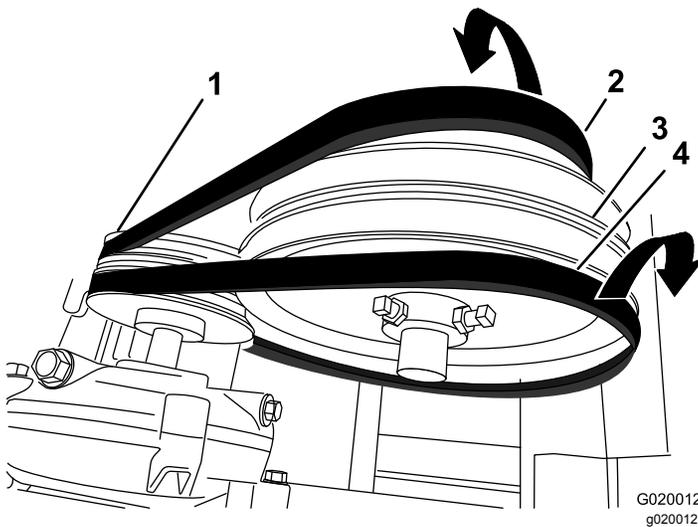

Figure 74
4. Slip the forward belt forward and off the idler pulley (Figure 74).
5. Slip the rear belt rearward and off the idler pulley (Figure 74).